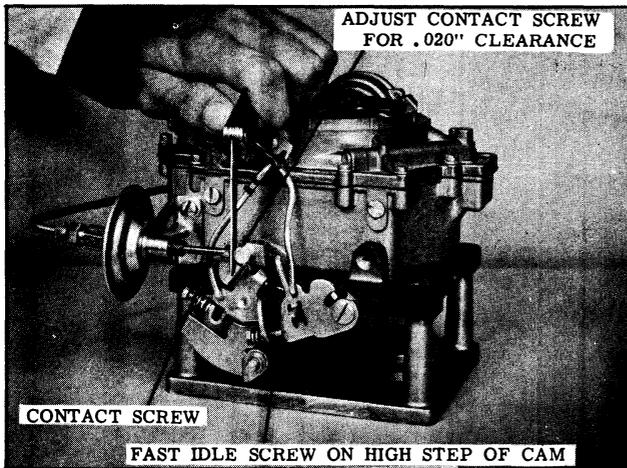

Fig. 3-156 Adjusting Throttle Return Check
3. Set carburetor on fast idle and check clearance between throttle return check plunger and throttle lever. (See Fig. 3-156) Adjust to .020" using two wrenches so that diaphragm is not permitted to turn.